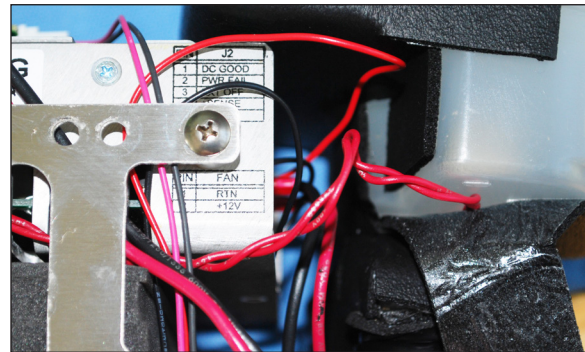

Figure 53 - Step 5 Loosen reservoir insulation
5. Fasten the float switch cable under the reservoir insulation. Ensure the float switch wires extend towards the front left corner of the reservoir (Figure 53).